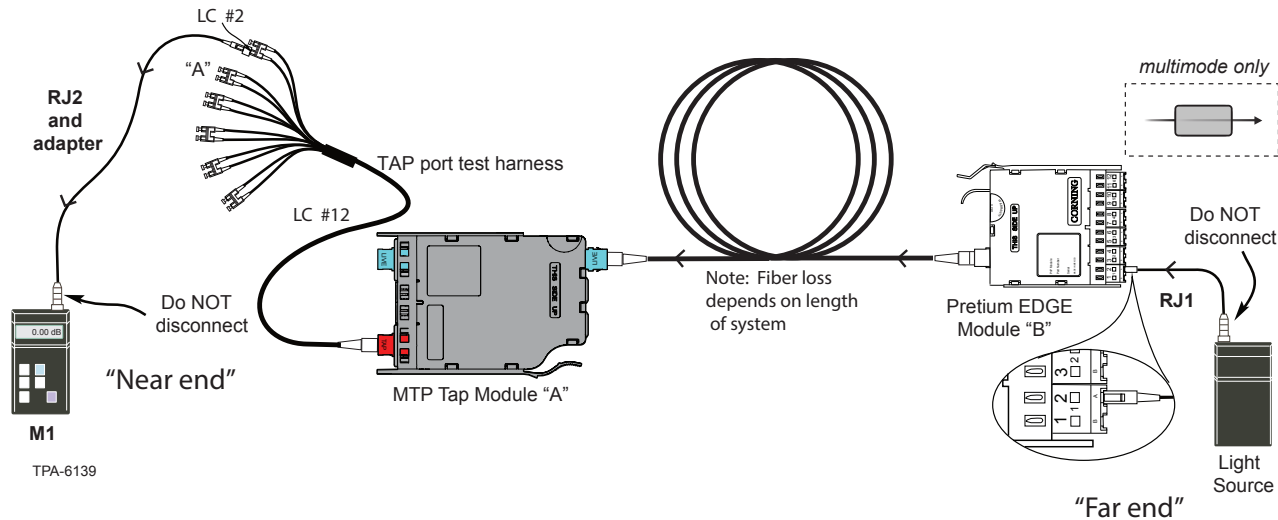

Figure 15
9.5 Table 5 provides a complete guide to the test sequence with the light source at Module “B”, or the “Far end” and the meter at the MTP Tap module “A” (“Near end”) tap port testing harness of the system shown in Figure 15.
9.6 To begin testing the tap Portion of the MTP Tap module from Module “B”, or the “Far end”, to module “A” TAP port test harness (Figure 15):